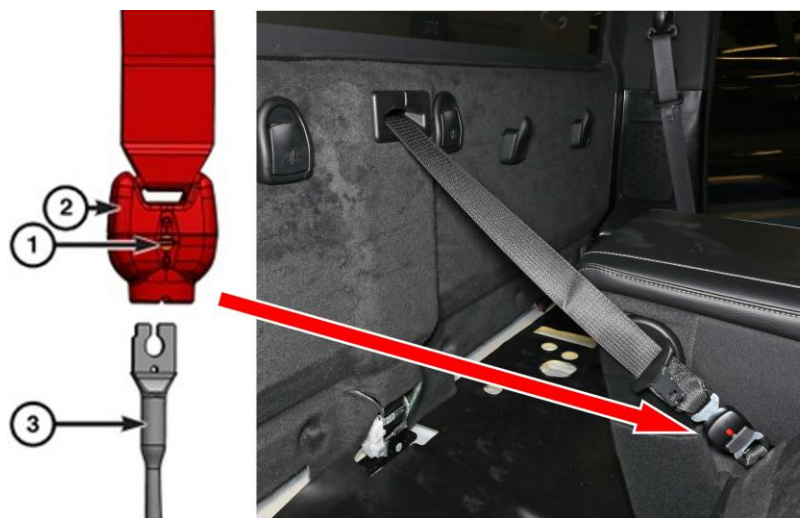

Figure 6 – Seat Belt Quick Connect
5. Using a flat blade screwdriver rotate the tensioner quick connect screw counterclockwise to disconnect the seat belt retractor lower buckle to the tensioner cable (Figure 6).
20. Connect the seat belt retractor lower buckle to the tensioner cable (Figure 6).